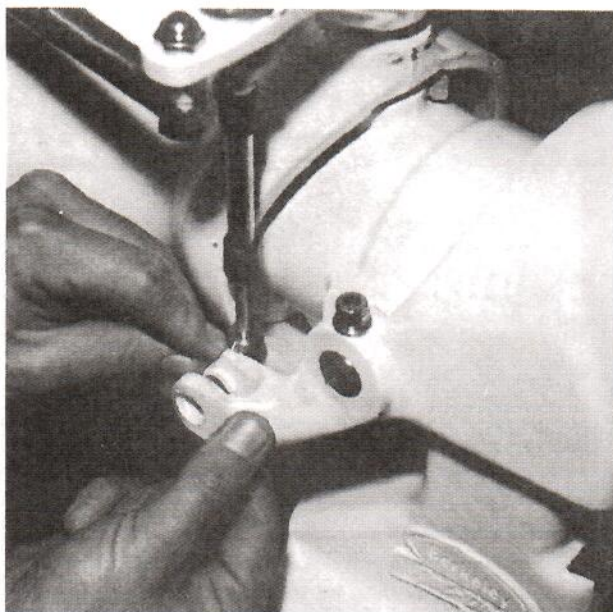

Figure 5
- 5 Place the Nyliner bushings into the holes in the reverse bucket arm. Install them from the inside so that the flanges are facing inward (Figure 5).